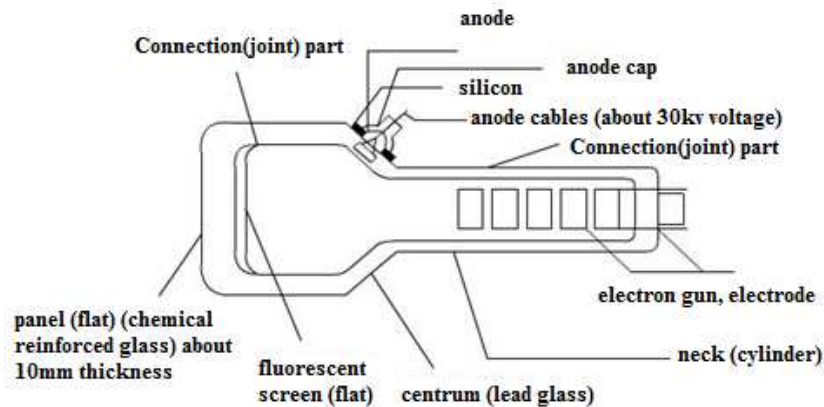

Figure 2 Structure diagram of CRT projection tube
**Projection tube.** Projection tube is the light source of three-tube type rear-projection TV (shown in figure 2). The major difference of it from ordinary direct-viewing CRT color kinescope is that it doesn't have color selection equipment--shadow mask. Fluorescent surfaces of three projection tubes